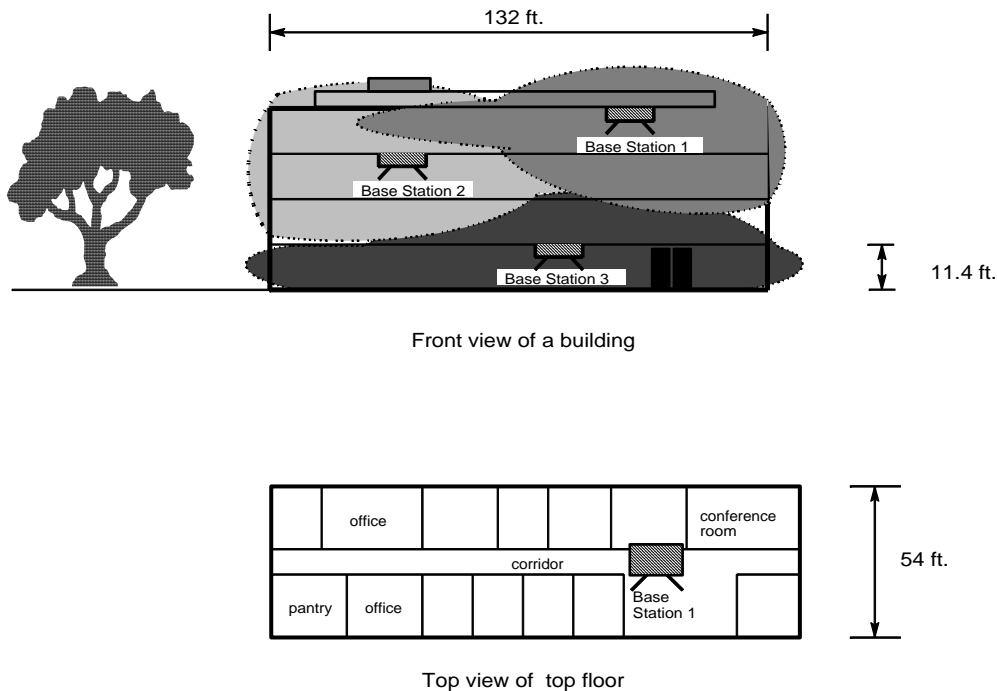

Fig. 3-1 Example of the locations of Base Stations in a building
- The in-house cell size in offices may be in a range of 30-200 ft. radius; see Figure 3-1.
- Base Stations may partially cover the floors immediately above and below as well. The useful range through floors and ceiling varies between a 0 and 26 ft. (2 floors) radius; see Figure 3-1.